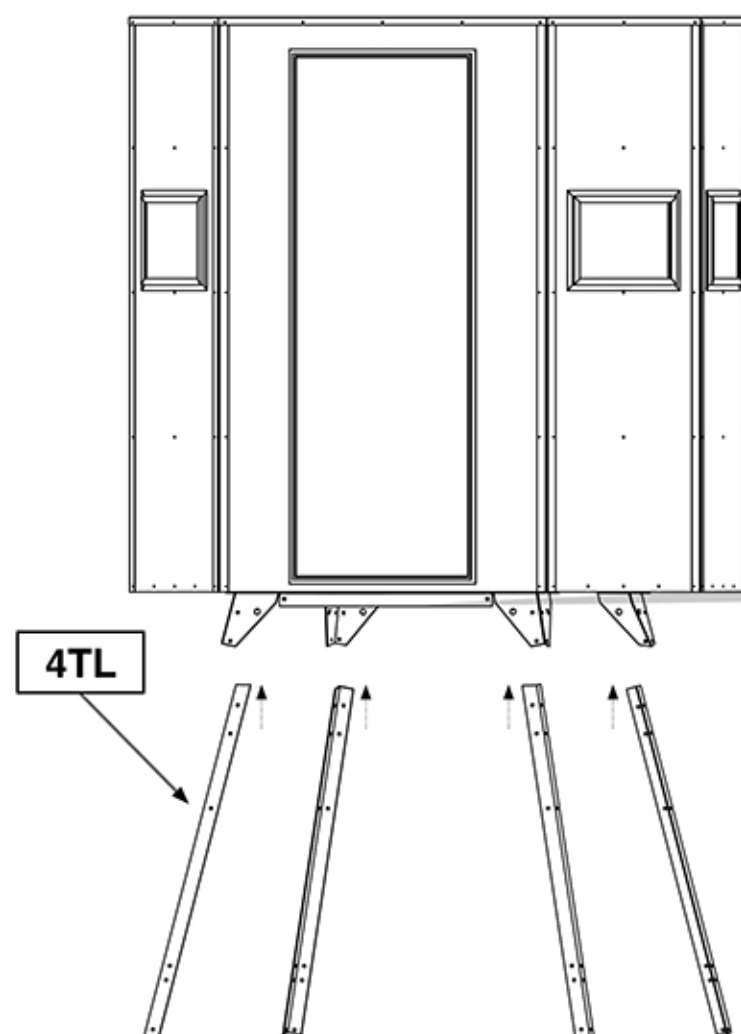

Figure 1
Step 2: Attach the (4TL) Legs to the Blind Assembly. (Figure 1)